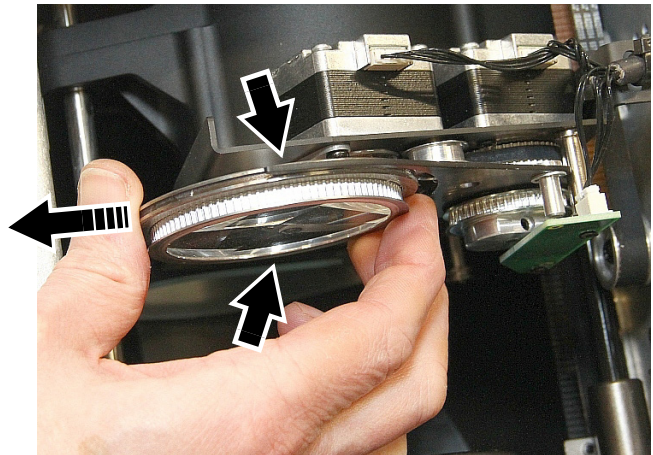

Figure 24: Removing the prism
- See Figure 24. Slide the prism out of the jaws (arrowed) that it sits in. Store it for possible re-use.